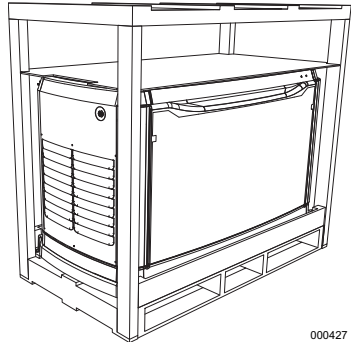

Figure 2-1. Crated Generator
2. See Figure 2-1. Remove wood frame.